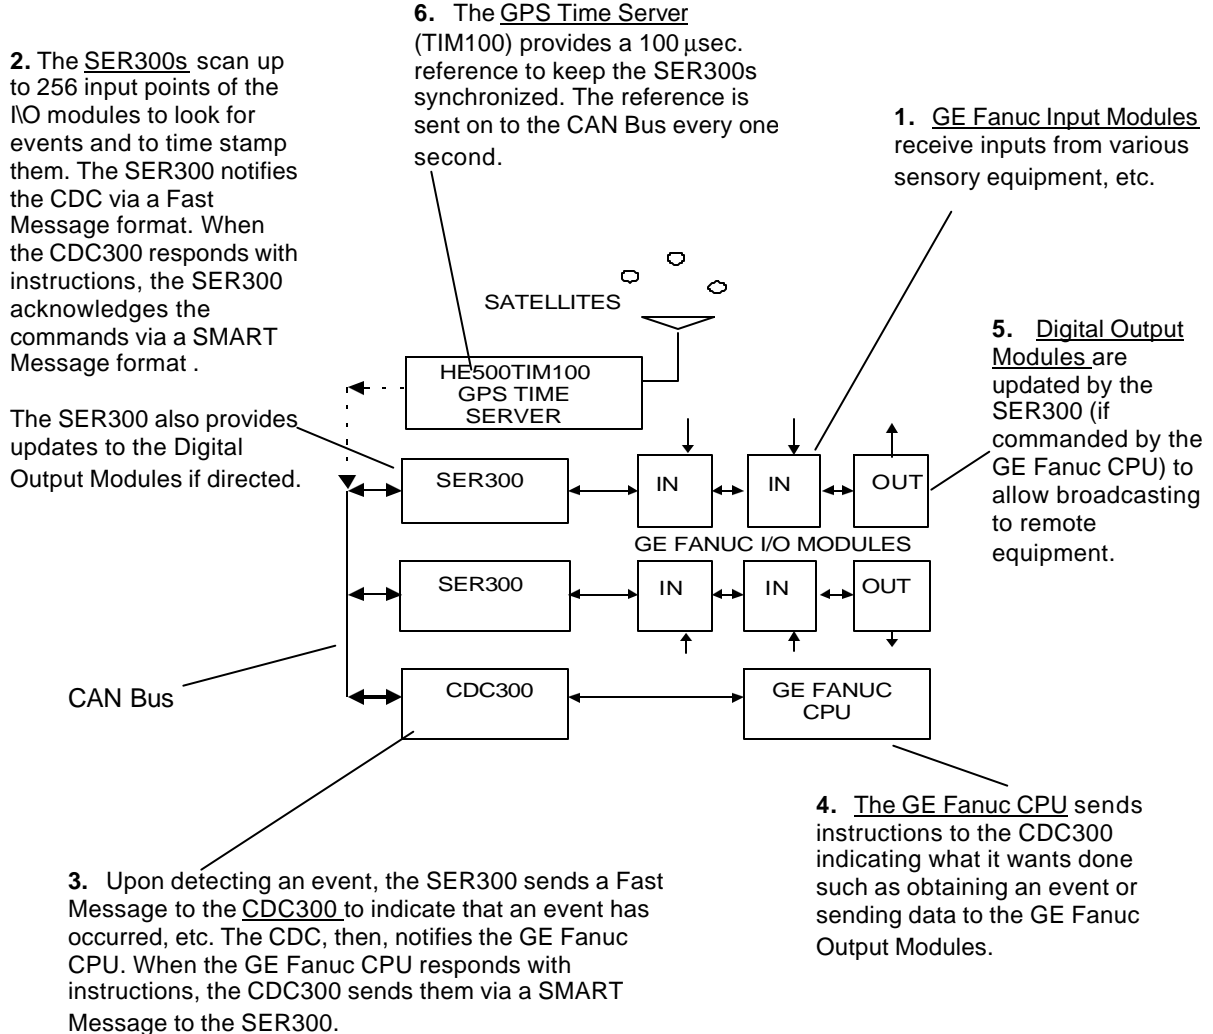

Figure 1.1 – Sequence of Events Recorder
4.2 Recording Events and Updating Digital Output Modules (See Figure 1.1 for Overview) 17
1.2 Overview of the Sequence of Events (See Figure 1.1)